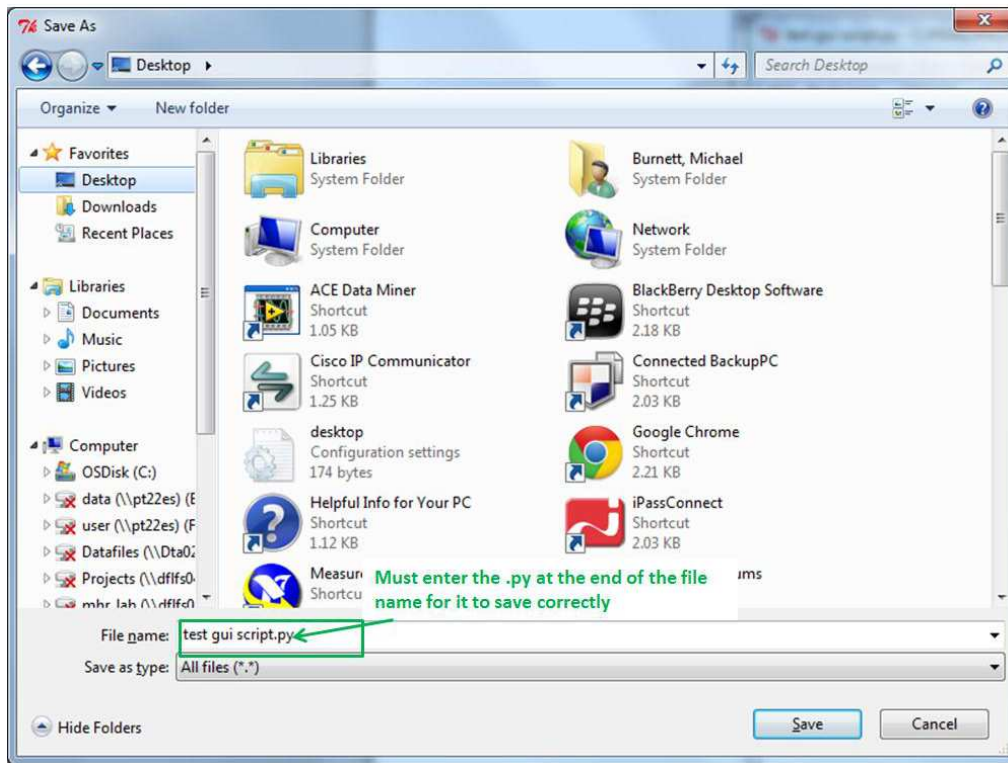

Figure 20. Must Enter the .py at the End of the File Name to Save the Python File Correctly
- (K) Browse to the Desktop and put the file name as test_gui_script.py (to save the file, you must enter the .py file extension at the end of the file name, for example, test.py) and save it to the desktop, see Figure 20.